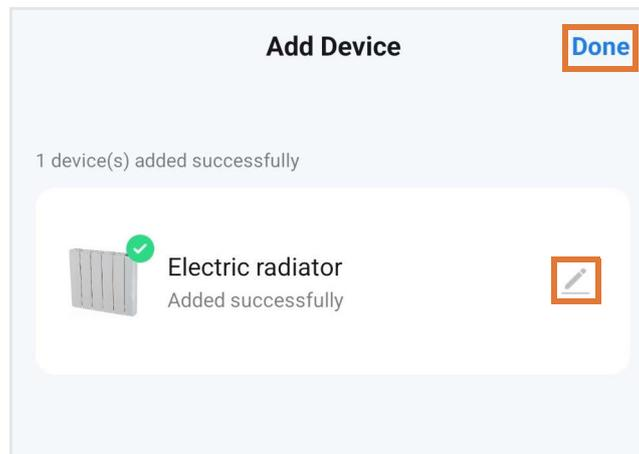

Figure 9 | Finishing connection process
- The radiator will begin connecting. When it is successfully added, it will appear on the app as in **Figure 9**. Press  to change the name of the radiator or “Done” to return to the home screen.